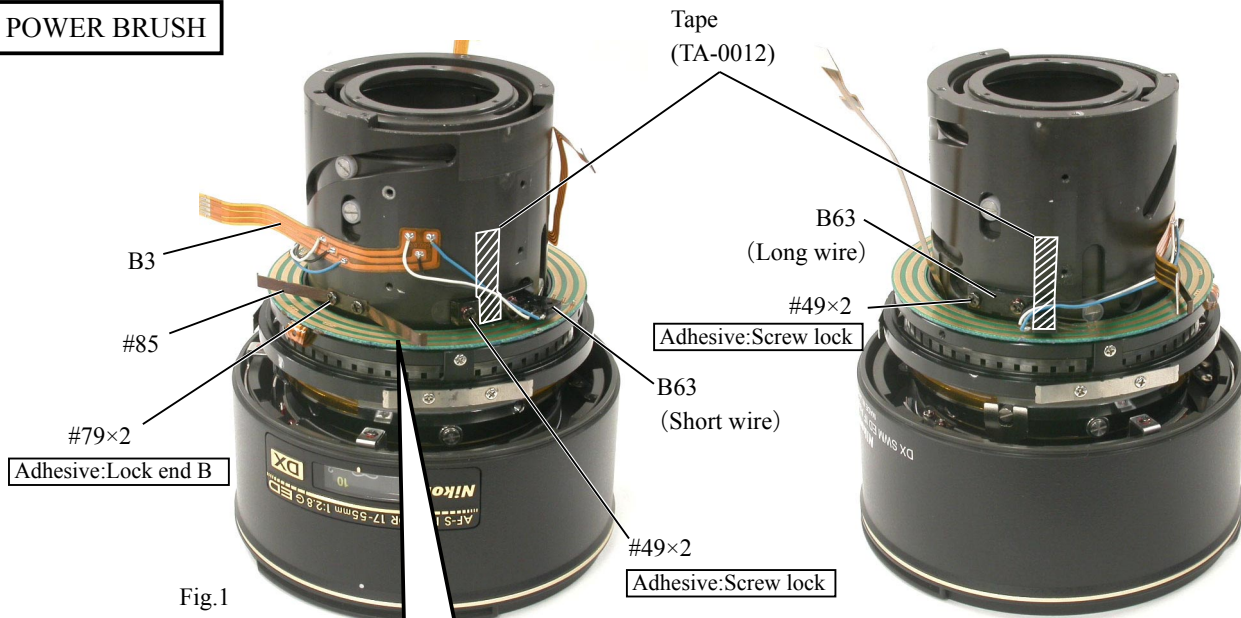

Fig.1
- Attach the FPC B3 at the position of Fig.1.